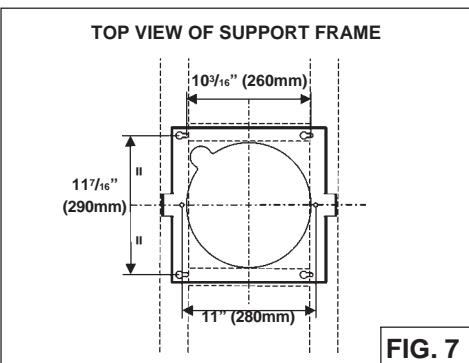

FIG. 7
- Mount the four 6x60mm screws to ceiling in the location shown in figure 7. Allow 1/4" clearance between screw head and ceiling (screws will be tightened later). Make sure the screws are driven into the center of joists and framing for maximum strength.